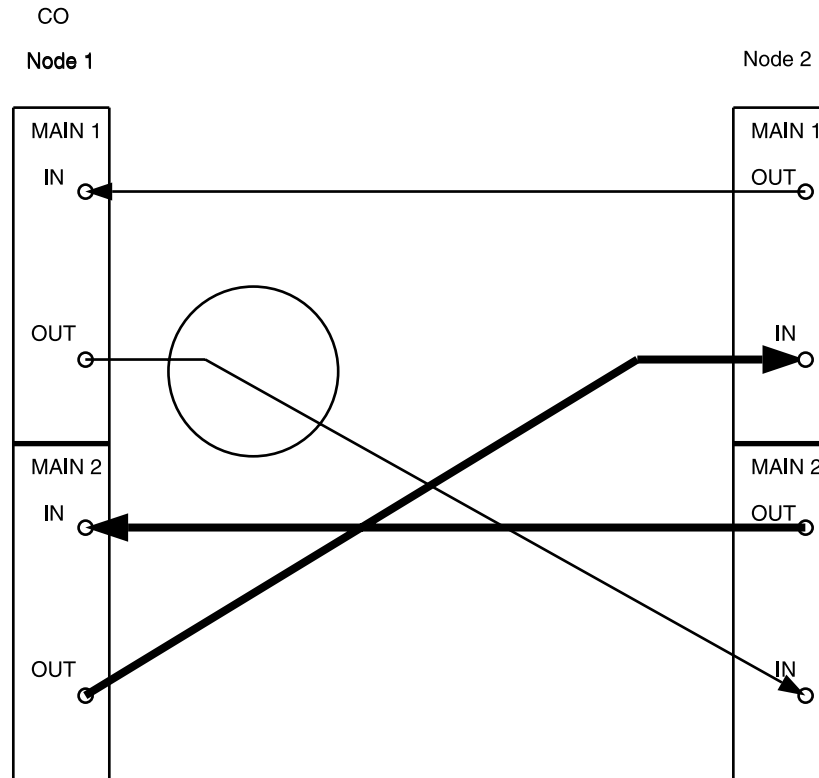

Figure 8 – DDM-2000 OC-3 Point-to-Point to Ring Upgrade
18. Remove optical splitter from Node 1 **MAIN 1 OUT** and Node 2 **MAIN 2(P) IN**. Connect optical fiber from Node 1 **MAIN 1 OUT** to Node 2 **MAIN 2(P) IN**. (See Figure 8.)